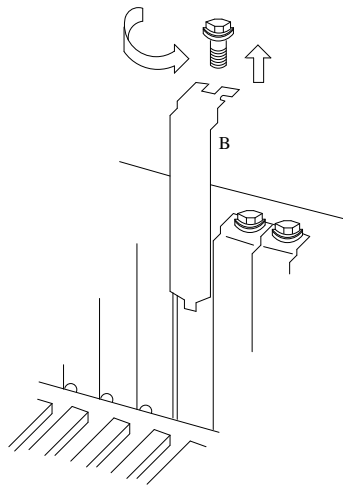

Figure C-3. Removing a Circuit Card Mounting Bracket Screw
See Figure C-3 for the location of the auxiliary housing. The procedure below assumes that you have shutdown the system, removed power, and removed the front and top covers. For information on how to perform those procedures, refer to Chapter 5, "Getting Inside the Computer" in *Lucent INTUITY MAP/5 Hardware Installation*, 585-310-146. Perform the following steps to remove the housing:
1. Remove the screws at the top and front as shown in Figure C-3.